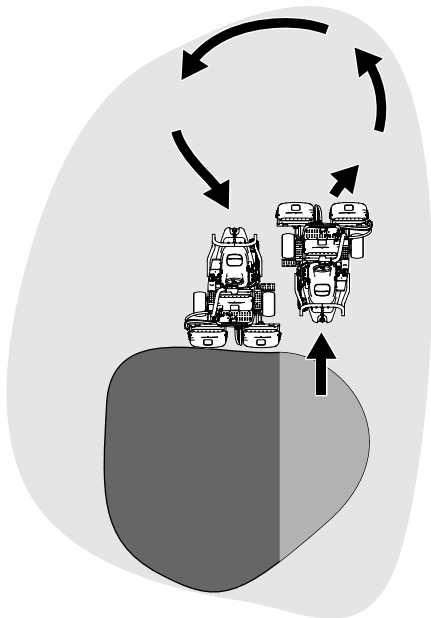

Figure 24
6. To cut down on operating time and to ease the lineup for the next pass, momentarily turn the machine in the opposite direction, then turn it in the direction of the uncut portion. This movement is a tear-shaped turn (Figure 24), which quickly lines the machine up for your next pass.